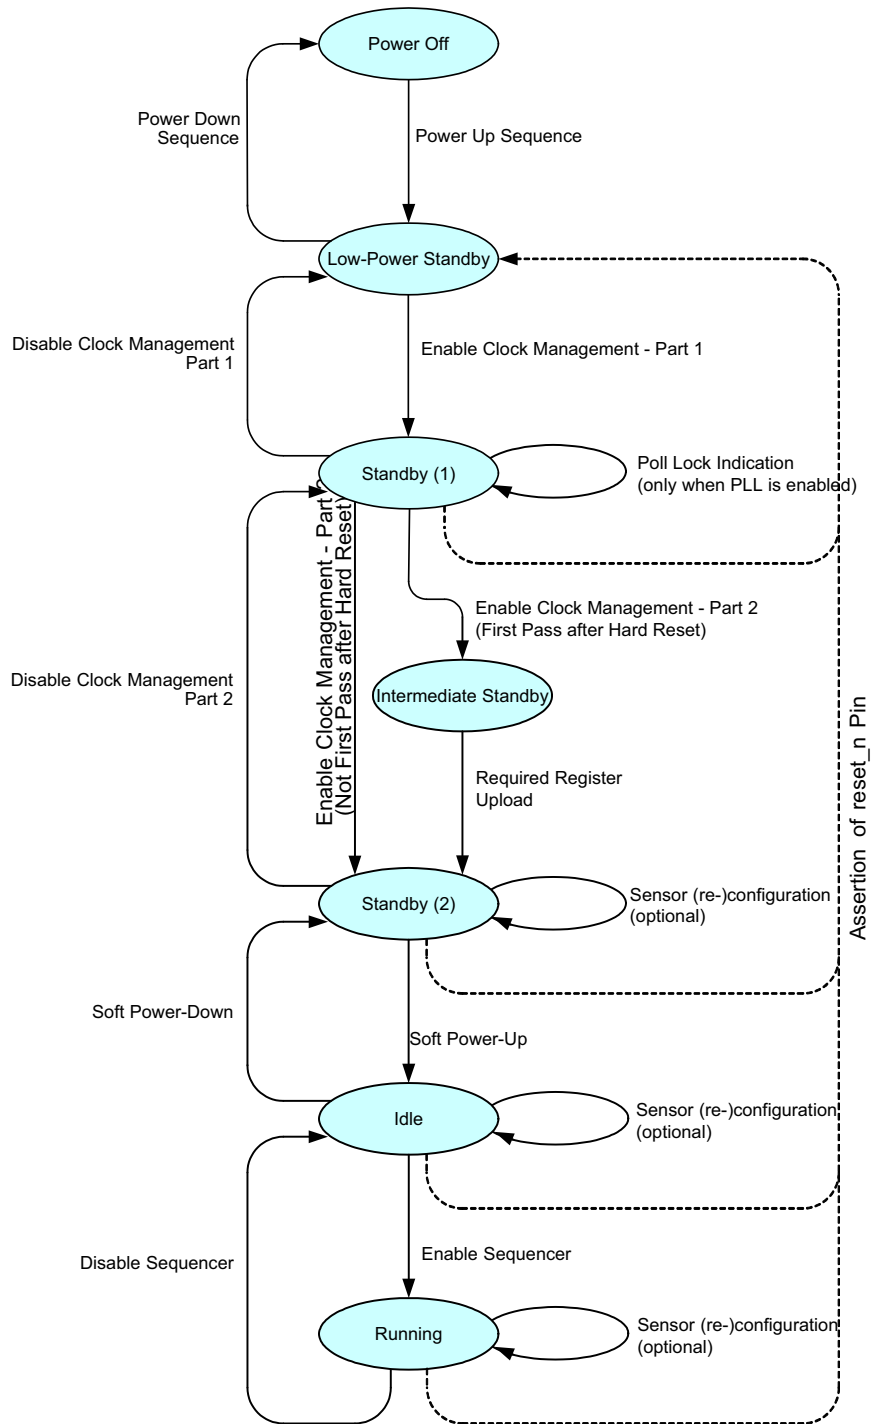

Figure 17. Sensor Operation Flowchart
Figure 17 shows the sensor operation flowchart. The sensor has six different 'states'. Every state is indicated with the oval circle. These states are Power off, Low power standby, Standby (1), Standby (2), Idle, Running.
Check the PLL_lock flag 24[0] by reading the SPI register. When the flag is set, the 'Enable Clock Management– Part 2' action can be continued. When PLL is not used, this step can be bypassed as shown in Figure 17 on page 16.